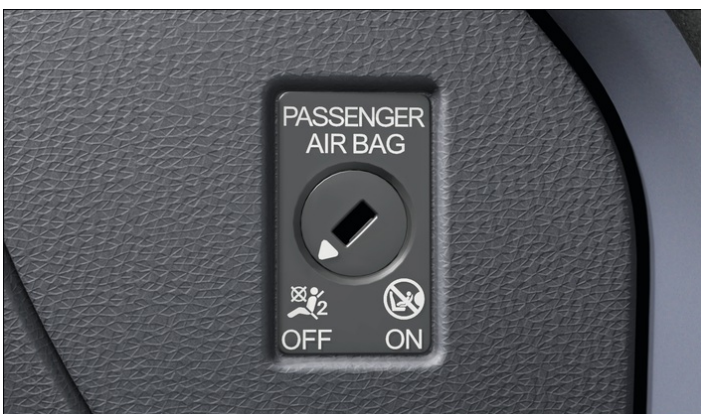

Fig. 1 In the dash panel on the front passenger side: key-operated switch for deactivating and activating the front airbag on the front passenger side
4. Insert the key bit of the manual key into the key-operated switch on the dash panel until you feel the second point of resistance → *Fig. 1*. Around three quarters of the key bit should be inserted in the key switch at this point → .